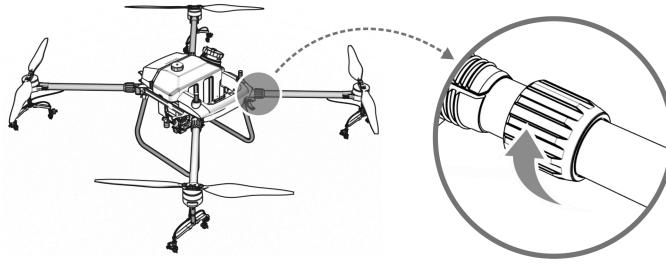

Figure 1-18 Tighten Arm Sleeves
Step 4: Tighten the arm sleeves as shown in Figure 1-18.